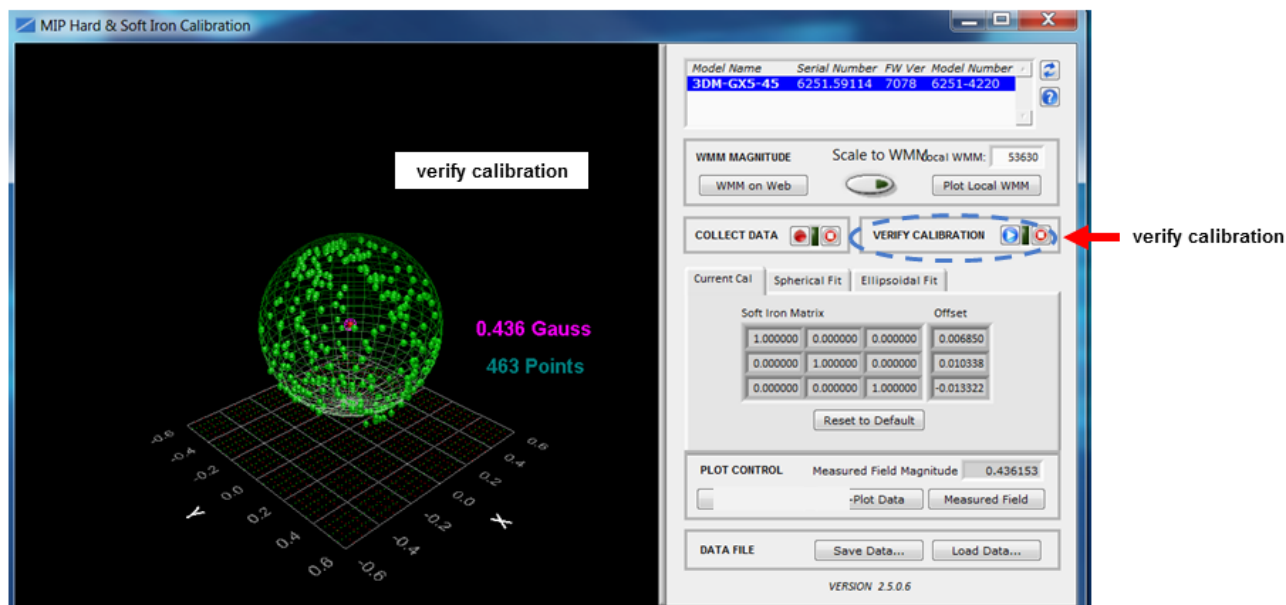

Figure 28 - Verify Calibration
9. Start a calibration verification by clicking the Start Streaming Data button next to Verify Calibration (Figure 28 - Verify Calibration). Rotate the device in all orientations in the same way as during calibration. When completed click the Stop Streaming Data button next to Verify Calibration. The resulting data points should be on or near the spherical grid. Hold the left mouse button and drag to rotate the image. The mouse wheel can be used to zoom in and out. If the fit is not close, the sensor may require re-calibration. If it is close, as shown, calibration and verification is complete.